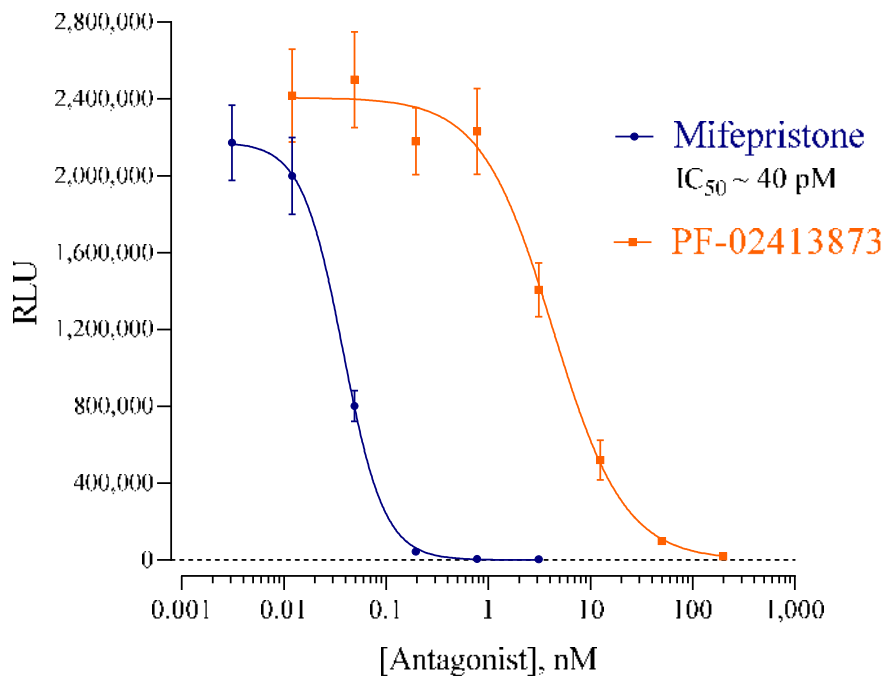

Figure 3. Validation of PGR Antagonist assay.
- *Optional:* antagonist reference compound (*e.g.*, Fig. 3)